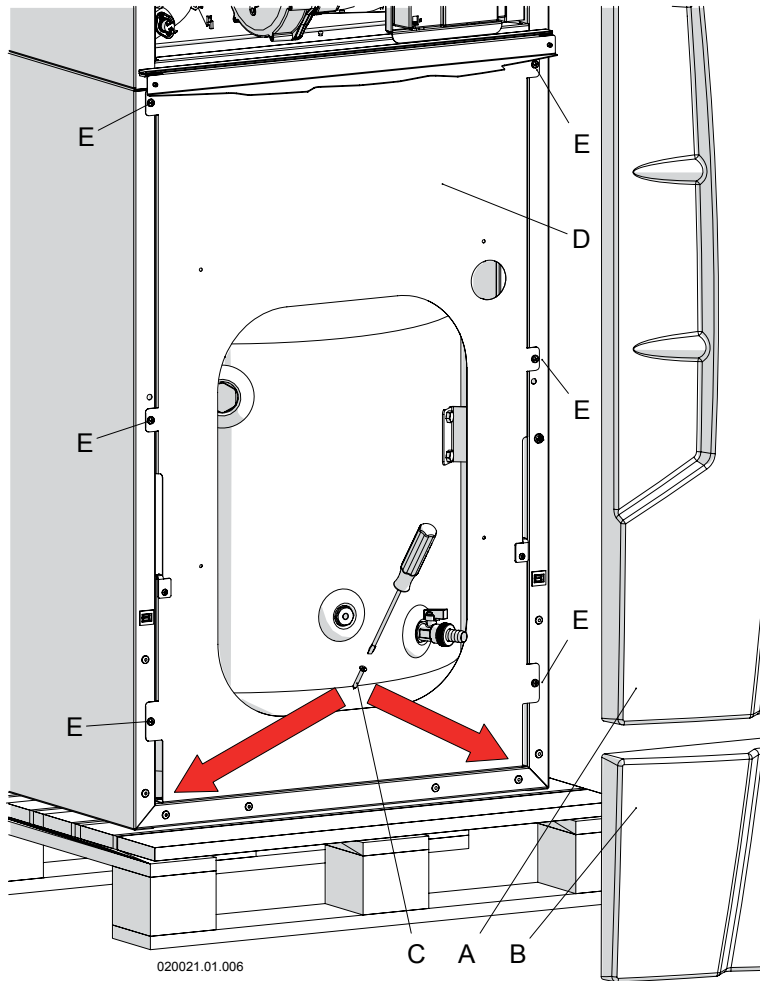

Figure 6-1 Remove heater from wood pallet (front)
2. Remove the front door (see Section 17.2) and the panel "D" by the screws "E" to access the screws "C" (Figure 6-1) in front of the unit.